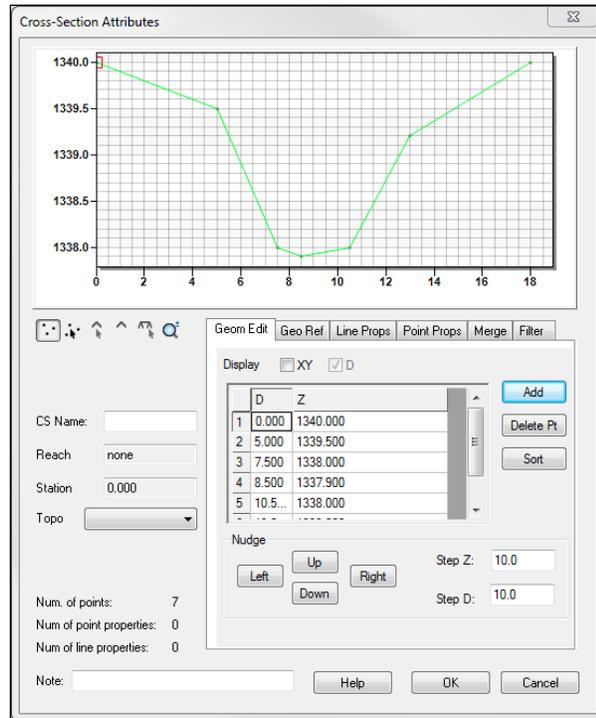

Figure 2 Adding cross section geometry data to the database
2. Click **New Database** to create a new database titled "CSDB (2)".
11. In the *Geom Edit* tab of the *Cross Section Attributes* dialog, select the top, left cell, and paste the data in as shown in Figure 2.